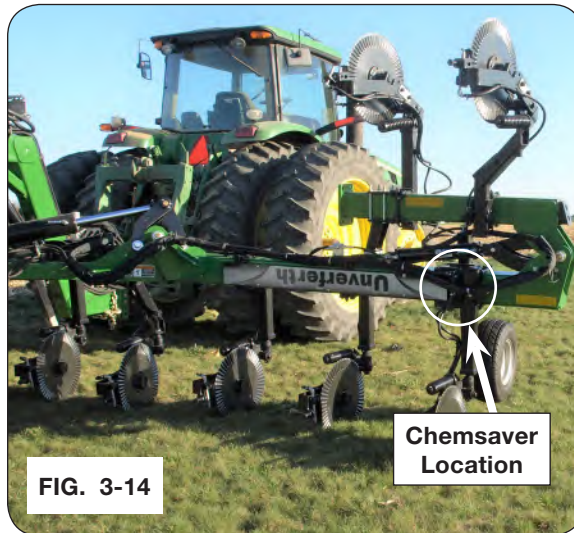

FIG. 3-14
1. Fold the toolbar to 30' for the dual width application. (FIG. 3-14)
2. Turn off sections 1 and 5 on the flow controller, and turn on the chemsaver valves to the outside coulters on each main wing. (FIG. 3-14)